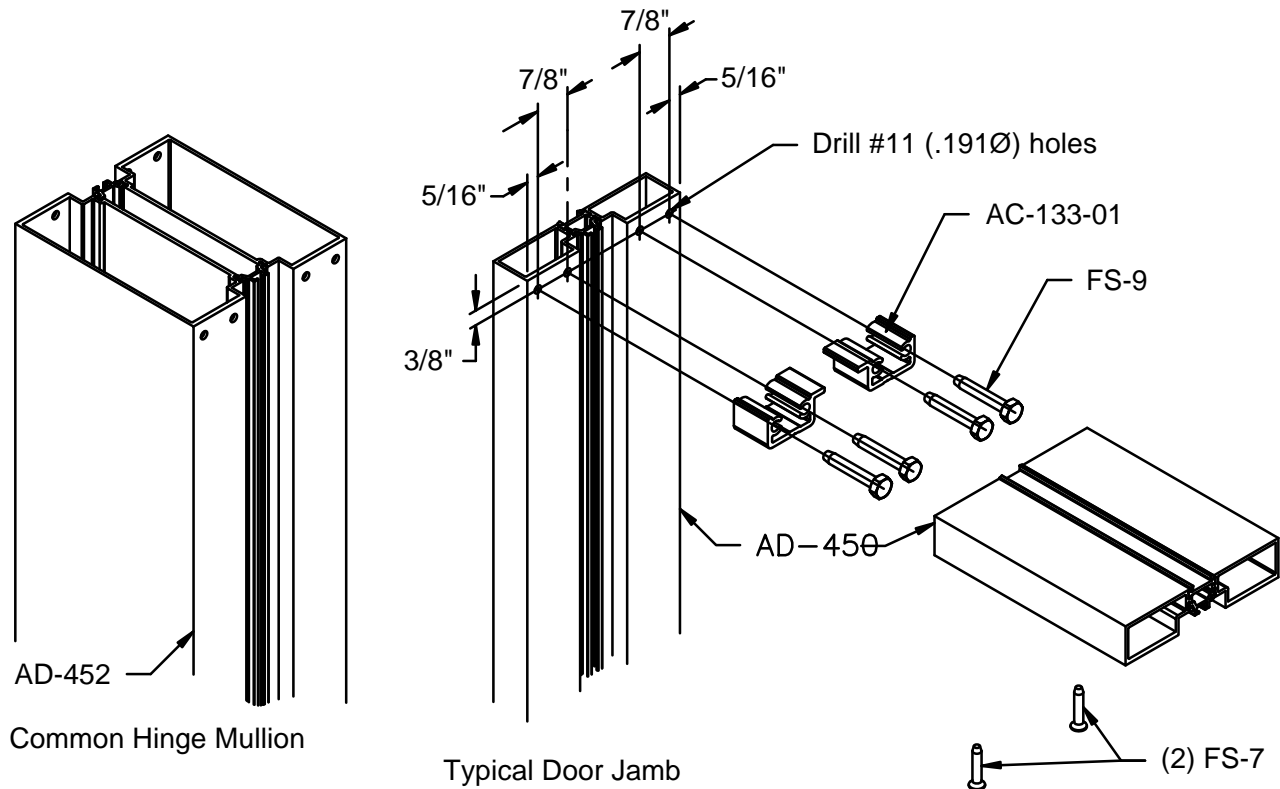

FIGURE 1
1. Attach (2) AC-133-01 shear blocks to top end of door jambs using (4) FS-9 #14 x 1 1/2" hex head fasteners. See FIGURE 1.